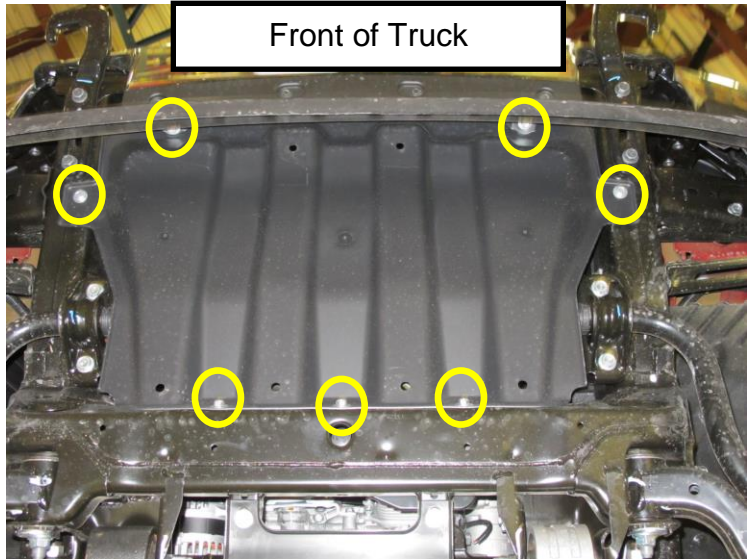

Figure 3
- Standard: Remove the (7) front under cover bolts (Figure 3).